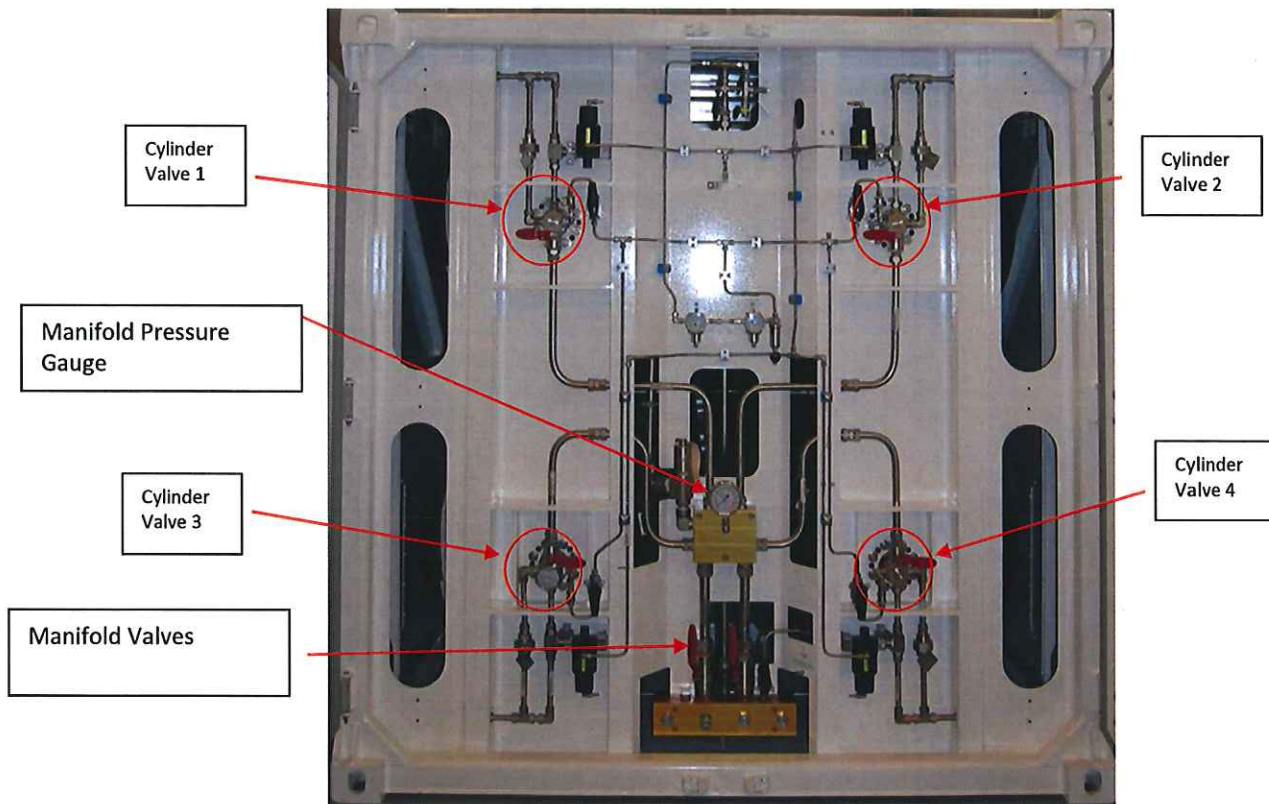

Figure 8: Cylinder Valves in "Open" Position
9. Once the connection is secure, open the manifold valves shown in Figure 8.
10. Open the cylinder valves (shown in Figure 8). The pressure in the distribution manifold can be read by the pressure gauge as shown in Figure 8.
10. Open the cylinder valves as highlighted in Figure 8